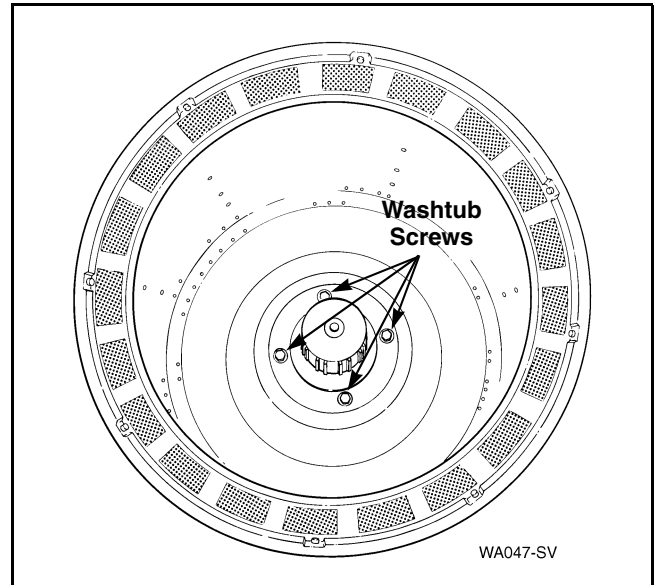

Figure 28
- e. Remove four screws and washers holding washtub to hub. Refer to *Figure 28*.
- g. Remove four screws holding washtub to hub. Refer to *Figure 28*. Then lift washtub out of outer tub.